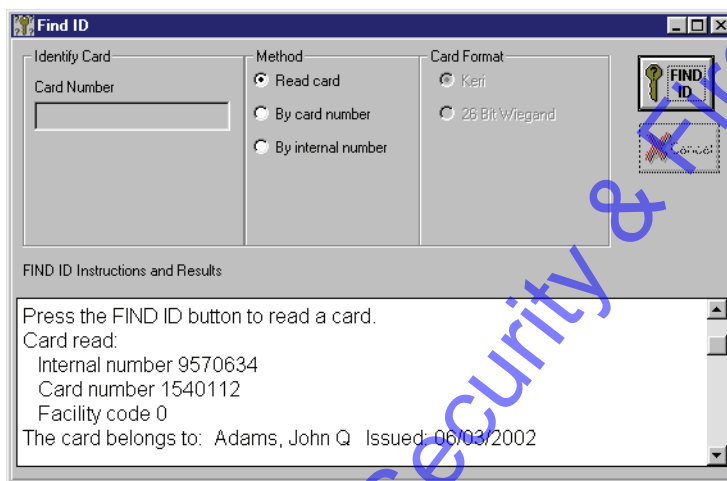

Figure 4-52: Card Identified by Reading
4. The card's internal number, card number, facility code, to whom the card was previously assigned (if anyone), to whom the card is currently assigned and the date of issue is displayed in the "Find ID Instructions and Results" field (see Figure 4-52).